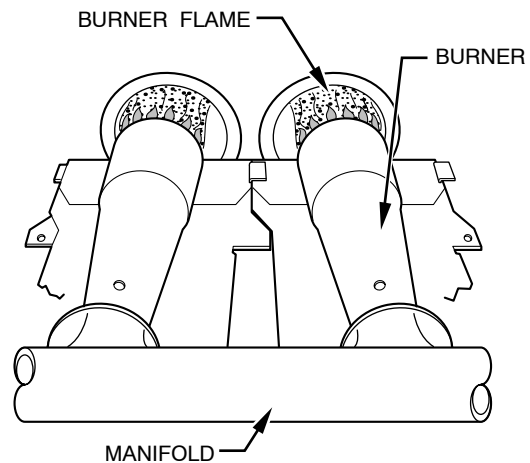

**Fig. 17 - Burner Flame**
- b. When correct input is obtained, main burner flame should be clear blue, almost transparent. (See Fig. 17.) Be sure regulator seal cap is in place when finished.